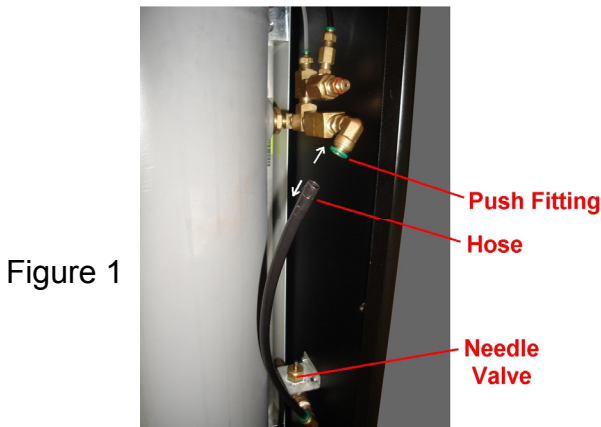

Figure 1
- 1) Locate the Needle valve inside the unit and disconnect the hose as shown in Figure 1. Press the green collar on the Push Fitting as indicated by the arrow and pull the Hose out of the fitting.